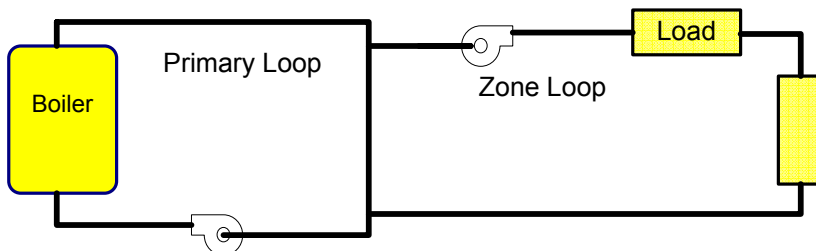

Figure 1
Many variable flow hydronic systems utilize a by pass valve to balance pressure from the zones. Replacing these valves with a VFD to control pumps can save energy. For example, in Figure 1, as zones become satisfied, the differential pressure control (P) modulates the bypass valve open to decrease flow to the zone loops. As pressure in the zone loop decreases, the bypass valve closes to ensure proper flow out to the zones.